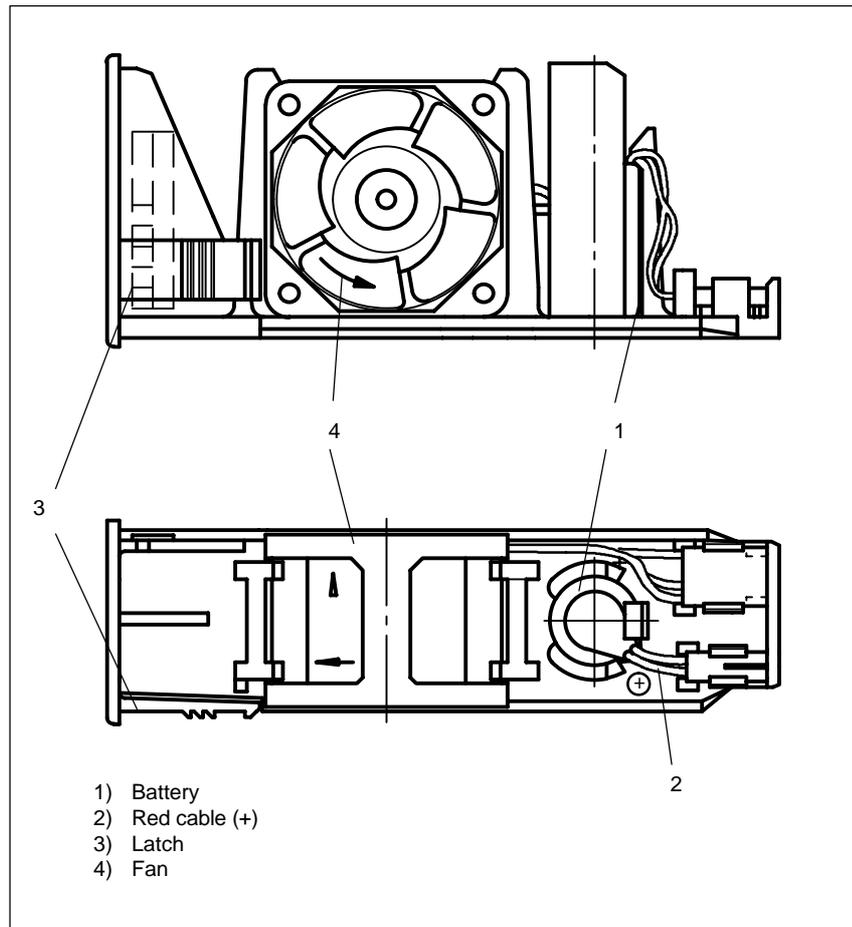

Fig. 12-2 Battery/fan drawer
The battery/fan drawer is located under the DC link bars (see Fig. 12-2).
1. There is a latch (3) on the bottom of the drawer (see Fig. 12-2). Press the latch (3) up and pull the drawer out towards you at the same time.